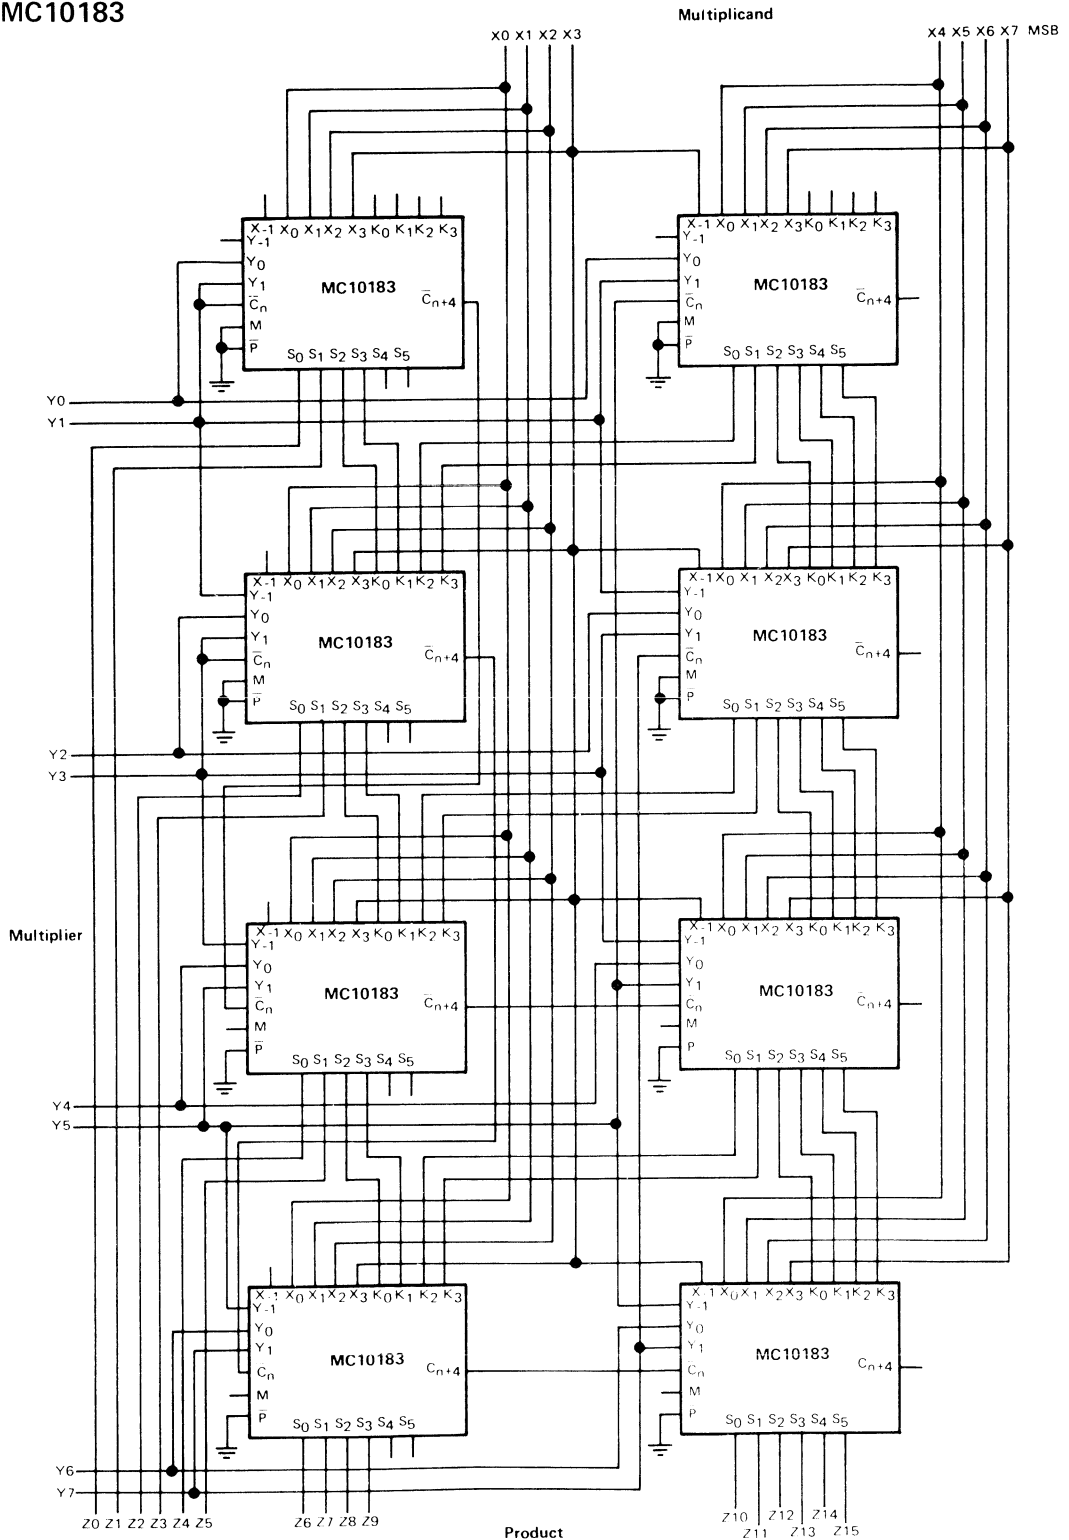

FIGURE 1 – 8-BIT × 8-BIT 2's COMPLEMENT MULTIPLIER
1. For an M-bit by N-bit multiplier, an (M+N)-bit product is formed. The number of MC10183's equals (M \* N)/8. As an example, an 8 X 8 bit (Figure 1) array requires (8 X 8)/8 = 8 packages.